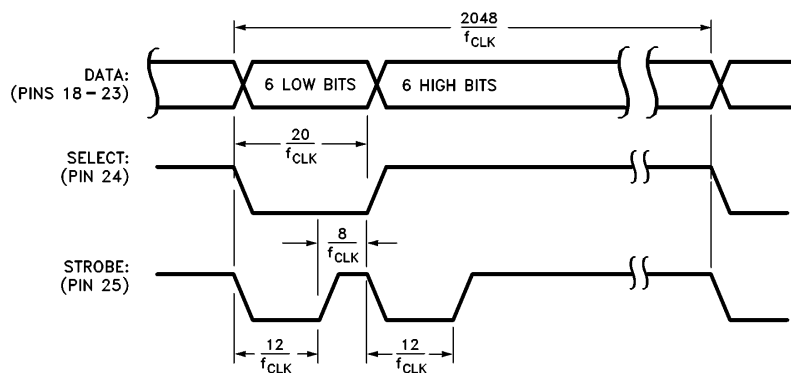

FIGURE 8. 12-Bit Multiplexed Output Timing
2. LM628 (12-bit output mode): Outputs two, multiplexed 6-bit words. The less-significant word is output first. The MSB is on Pin 18 and the LSB is on Pin 23. Pin 24 is used to demultiplex the words; Pin 24 is low for the less-significant word. The positive-going edge of the signal on Pin 25 is used to strobe the output data. Figure 8 shows the timing of the multiplexed signals.
The LM628 DAC output port can be configured to provide either a latched eight-bit parallel output or a multiplexed 12-bit output. The 8-bit output can be directly connected to a flow-through (non-input-latching) D/A converter; the 12-bit output can be easily demultiplexed using an external 6-bit latch and an input-latching 12-bit D/A converter. The DAC output data is offset-binary coded; the 8-bit code for zero is 80 hex and the 12-bit code for zero is 800 hex. Values less than these cause a negative torque to be applied to the motor and, conversely, larger values cause positive motor torque. The LM628, when configured for 12-bit output, provides signals which control the demultiplexing process. See *Figure 8* for details.